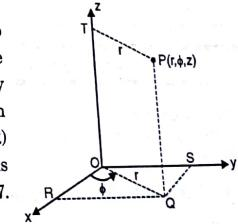

Fig. 6.1.7 : To show co-ordinate transformation
- To find  $x$  and  $y$  corresponding to  $P(r, \phi, z)$ , project pt.  $P$  on  $xy$  plane i.e. point  $Q$ . Project  $OQ$  on  $x$  and  $y$  axes. The length of projection on  $x$ -axis gives  $x$  coordinate (length  $OR$ ) and length of projection on  $y$  axis ( $OS$ ) gives  $y$  coordinate. In Fig. 6.1.7.